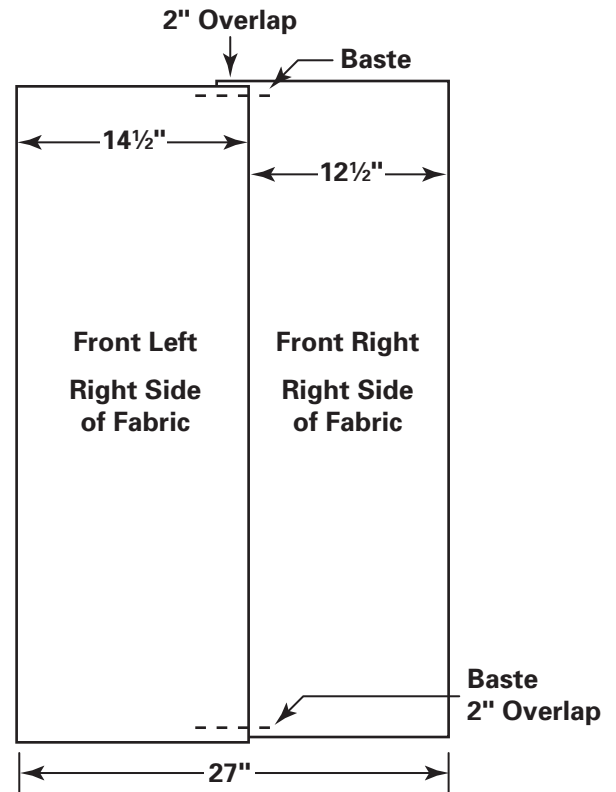

Fig. 21-3
5. With right sides facing, stitch a front lining panel to each outer bag front panel along the interfaced edge. Turn right side out and press the seam. Overlap the interfaced edges 2 inches (5 cm) so that the measurement across the two pieces together is 27 inches (68.5 cm). Pin the overlap. Baste the upper and lower edges of the overlap together. (Fig. 21-3)